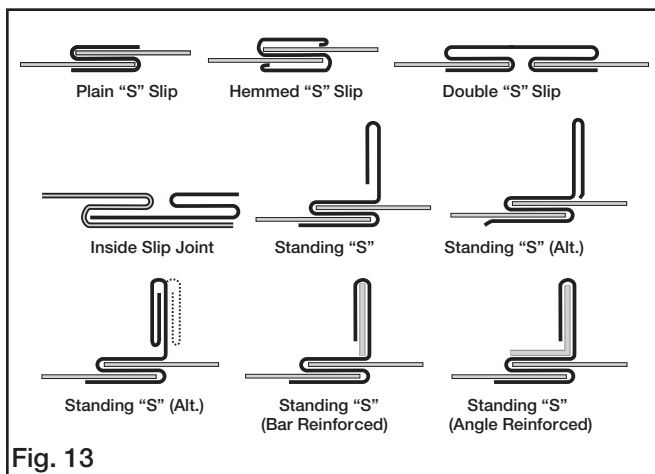

Fig. 13
- The breakaway connections shown (Fig. 13) can be applied with maximum of two #10 (19mm) sheet metal screws on each side and on the bottom located in the center of the slip pocket and penetrating both sides of the slip pocket.